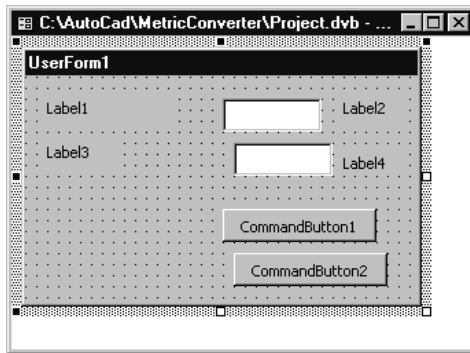

Figure 1.4 GUI for the Metric-Imperial Converter application before any properties have been updated
For your first application, we'll work with the Metric-Imperial Converter application, which converts metric measurements to imperial, and vice versa. This application uses two text boxes as shown in Figure 1.4. The interface allows the user to enter imperial measurements in yards into the first text box, then converts the measurement to metric and displays the results in the second text box. Alternatively, the user can enter metric measurements in meters into the second text box, and the application converts the value to imperial and displays it in the first text box.
3. Drag and drop a TextBox control from the Toolbox onto the UserForm and place it near the top right. In Figure 1.4, the two empty boxes are TextBox controls.
9. Now that all the controls required by the GUI have been added to the UserForm, adjust the UserForm's dimensions by dragging and dropping its borders until it is a snug fit for all the controls you've placed inside it. The layout of controls should look similar to the one shown earlier in Figure 1.4.